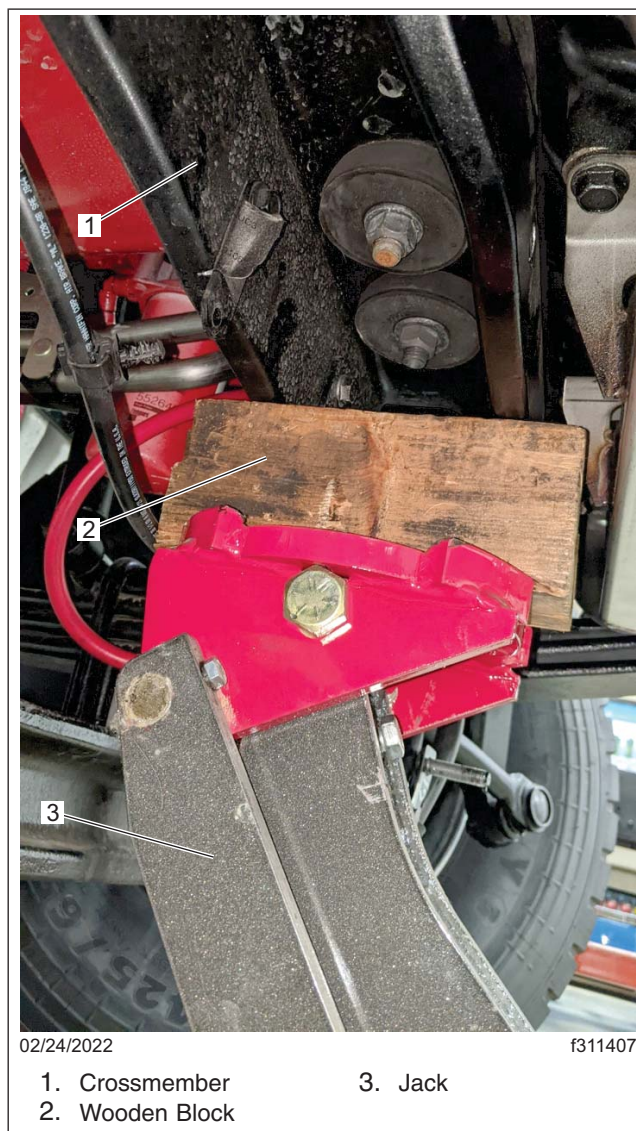

Fig. 3, Supporting the Crossmember
- 19.1 Position a jack under the left-hand side of the front crossmember. Support the crossmember with a wooden block placed between the jack and the crossmember. See Fig. 3.
- 42.1 Position a jack under the right-hand side of the front crossmember. Support the crossmember with a wooden block placed between the jack and the crossmember. See Fig. 3.